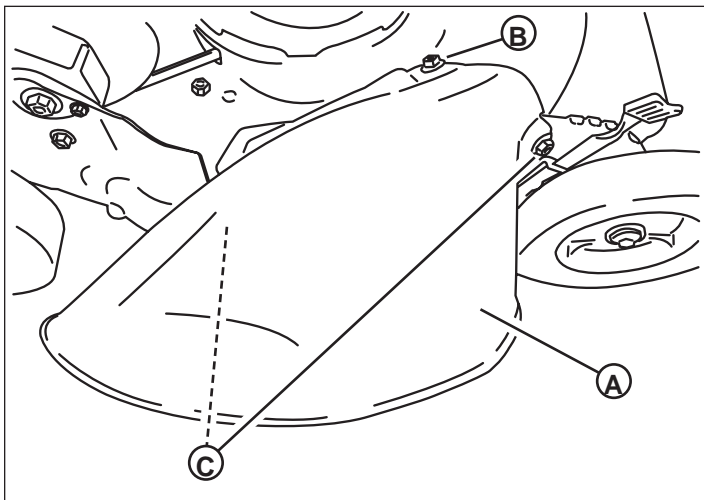

Figure 19
- Install the discharge deflector (A, Figure 19) and secure to the deck using the hardware just removed. The slot in the front edge of the discharge deflector must be under the nut (B), and both bolts protruding through the holes in the side of the deflector (C). Secure the nuts to the side of the deflector, tightening securely.